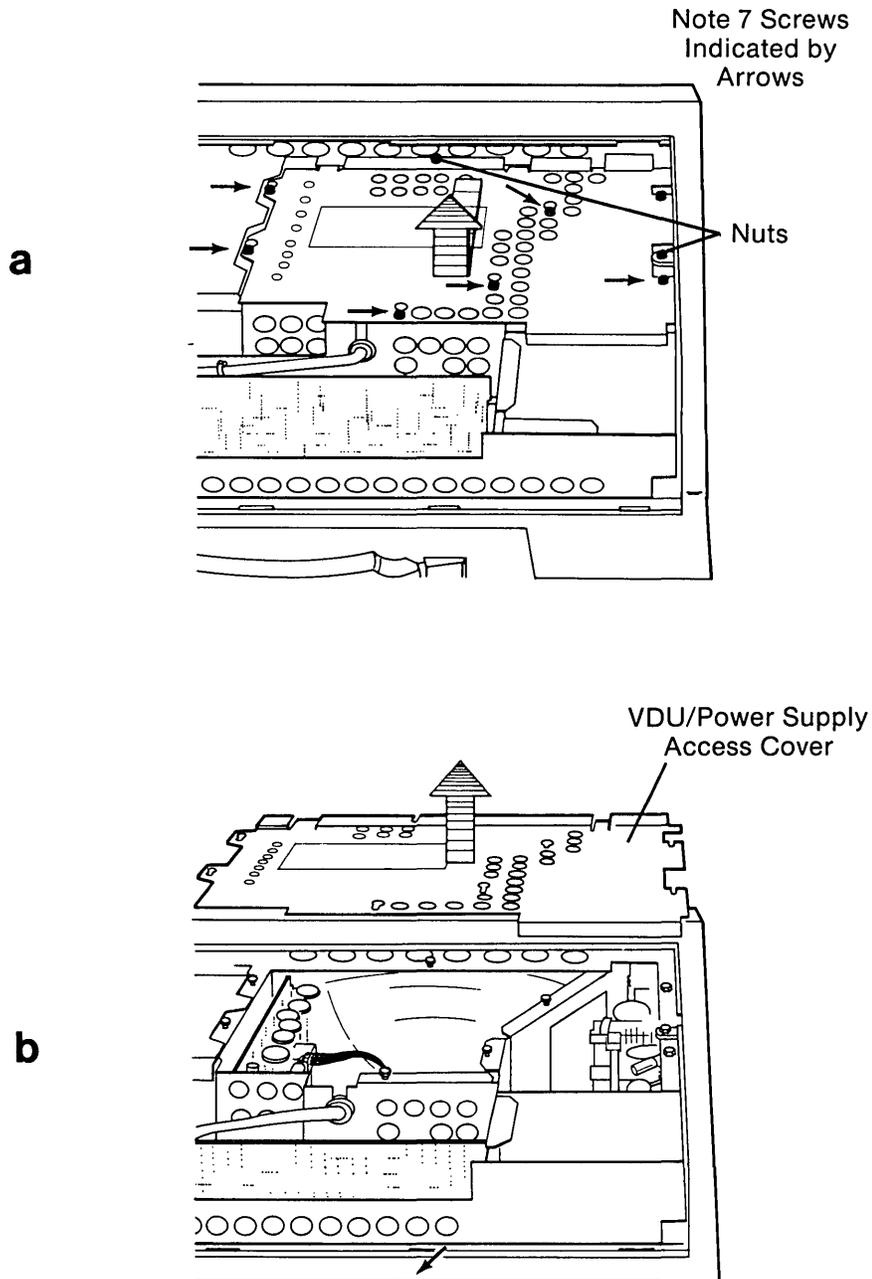

Figure 4-8. Removing the Power Supply Metal Access Cover.
Loosen (DO NOT REMOVE) the six (6) Phillip screws and the two (2) 1/4" nuts which hold the metal access cover over the power supply/VDU assembly compartment. Slide the metal cover toward the rear of the computer and lift it off (see Figure 4-8).